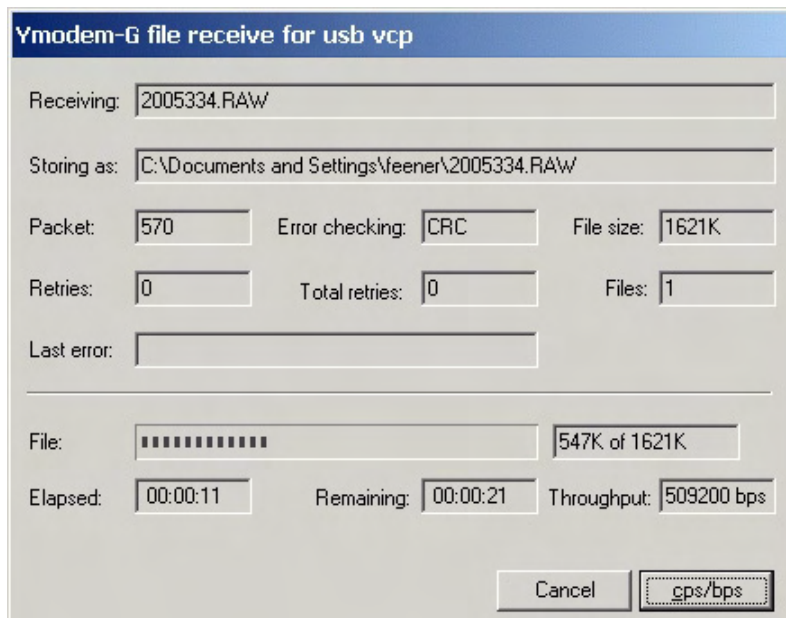

Figure 26 - HyperTerminal receiving a file
14. The file transfer will then begin. HyperTerminal will open a status window, indicating such information as file size, elapsed and remaining time, and throughput (in cps or bps). For the Ymodem-G transfer, the throughput will exceed 0.5 Million bits per second, as shown in Figure 26.